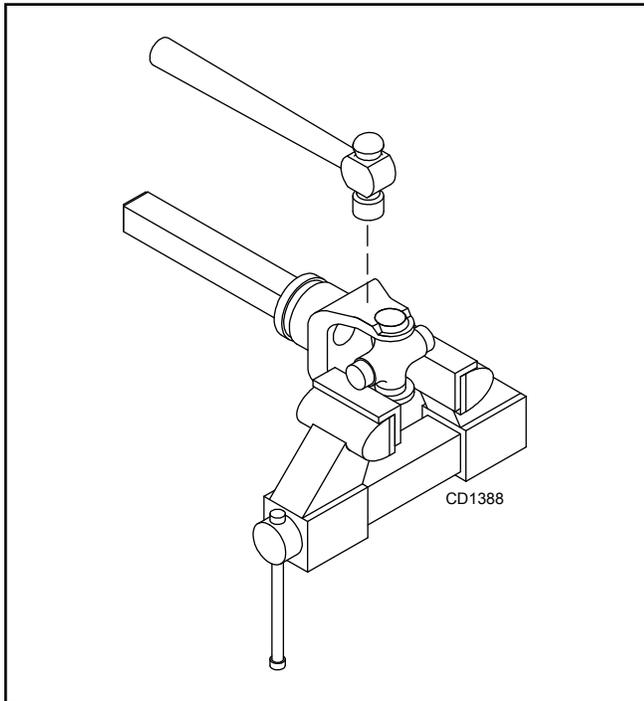

Figure 29.
4. Place universal cross in vise as shown in Figure 29 and tap on yoke to remove cup. Repeat Step 3 for final removal. Drive remaining cup out with a drift and hammer.